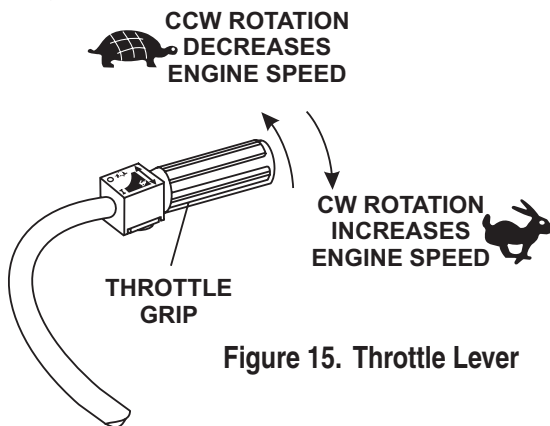

Figure 15. Throttle Lever
2. Turn and hold the throttle lever (Figure 15) on the handle to the desired engine speed, depending on the mix of the concrete. Stiffer concrete mixes will require more engine RPM's.